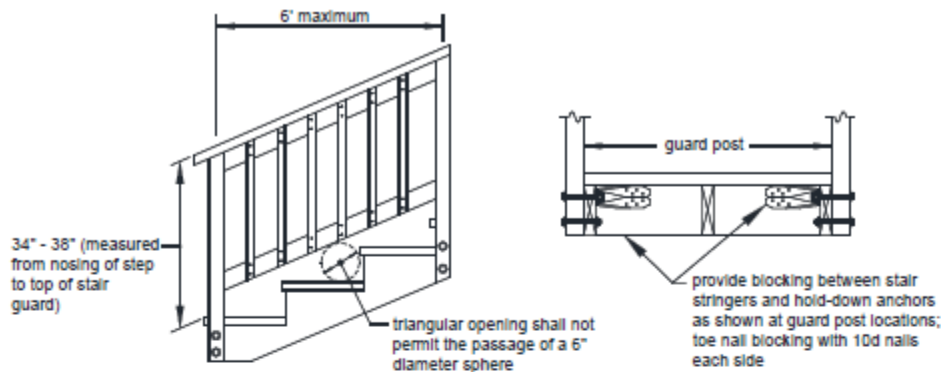

FIGURE 41: STAIR GUARD
- Tread material shall be equivalent to the decking specified on Page 4 and attached in accordance with FIGURE 41. The span of plastic composites shall be per manufacturer and in some cases may be less than 18 inches specified in FIGURE 41.
- Stairs constructed using the solid stringer exception shall have treads constructed of 2x wood material only, see FIGURE 41.